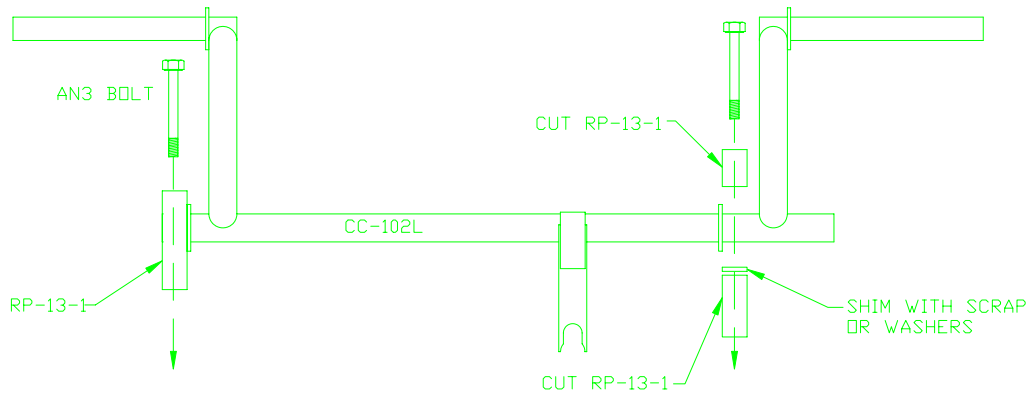

FIGURE 6
- 8) Assemble a left and right Rudder Pedal Assembly as in Figure 6. **NOTE:** Use the exploded view drawing in Chapter 12 as a guide.